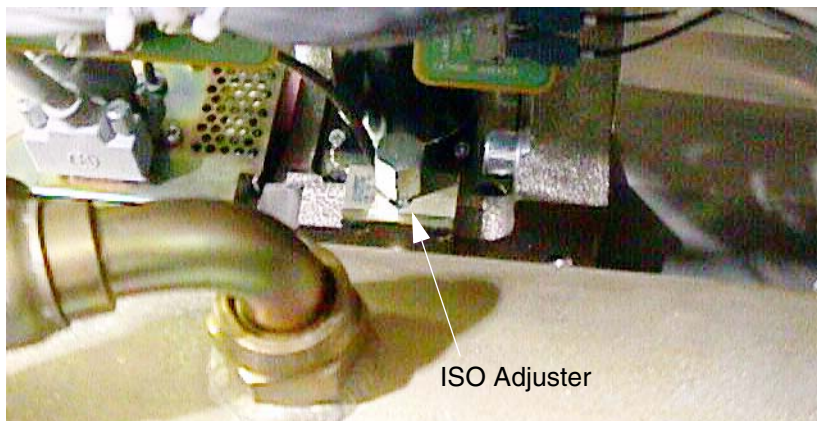

Figure 44 - ISO Alignment Adjuster
- 9.) Adjust the tube UP / DOWN as indicated by the calculation. The adjustment bolt is located on the top of the tube - Please see Figure 44.